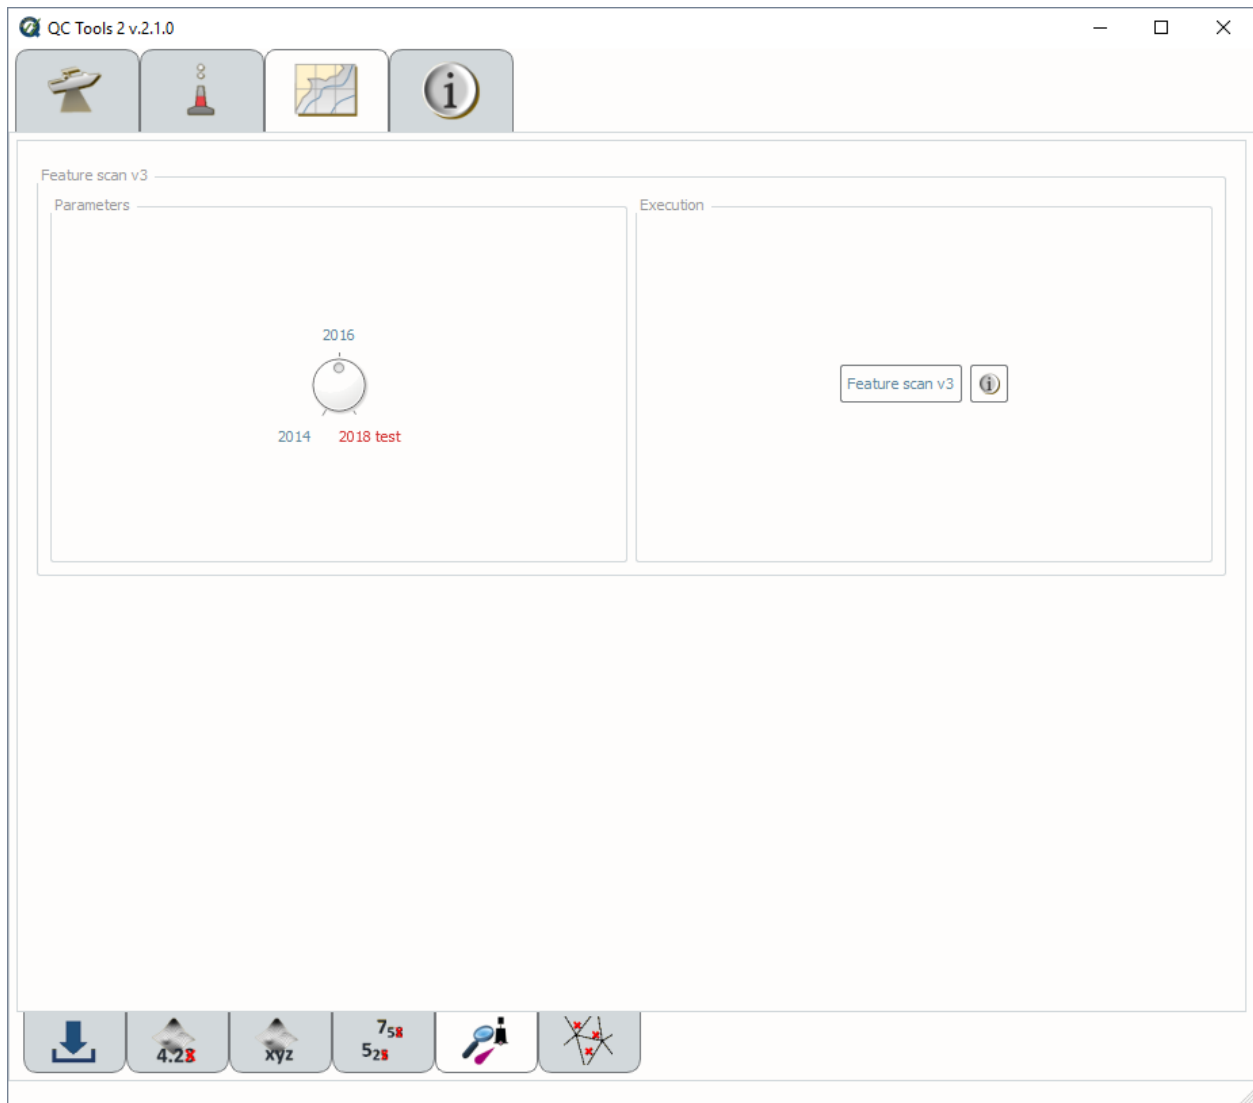

Fig. 2.43: Feature scan's interface.
- In **Parameters** (Fig. 2.43, left side), turn the knob to select the required year of HCell Specification. Currently, the '2018 test' is duplicative to 2016.
- In **Execution** (Fig. 2.43, right side), click **Feature scan v2**.